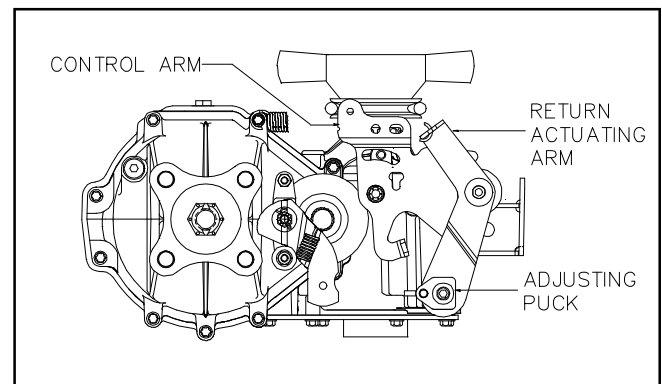

Figure 5. Return to Neutral, Foot Control
2. Remove the Original Equipment Manufacturer's (OEM's) control linkage at the control arm. Refer to Figure 5.
5. Stop the vehicle's engine. Adjust the OEM linkage according to the OEM manual. Recheck according to Step 3 and 4. Stop the vehicle engine. Refer to Figure 5.
6. Note the axle directional movement. Stop the vehicle engine. Loosen the adjusting puck screw until the puck can be rotated. Rotate the adjusting puck the opposite direction of the wheel rotation on the control linkage side in 5 degree increments. Tighten the adjusting puck screw. Refer to Table 5. Required Torque Values, Page 13. Recheck according to Step 3 and 4. Stop the vehicle engine. Adjust the OEM linkage according to the OEM manual. Recheck according to Step 3 and 4. Refer to Figure 5.